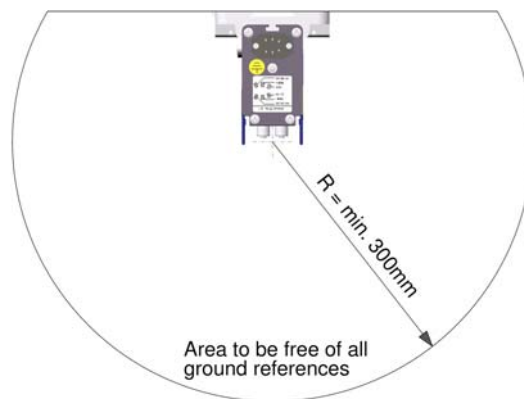

Figure 2
- For minimum distances, see Figure 2.